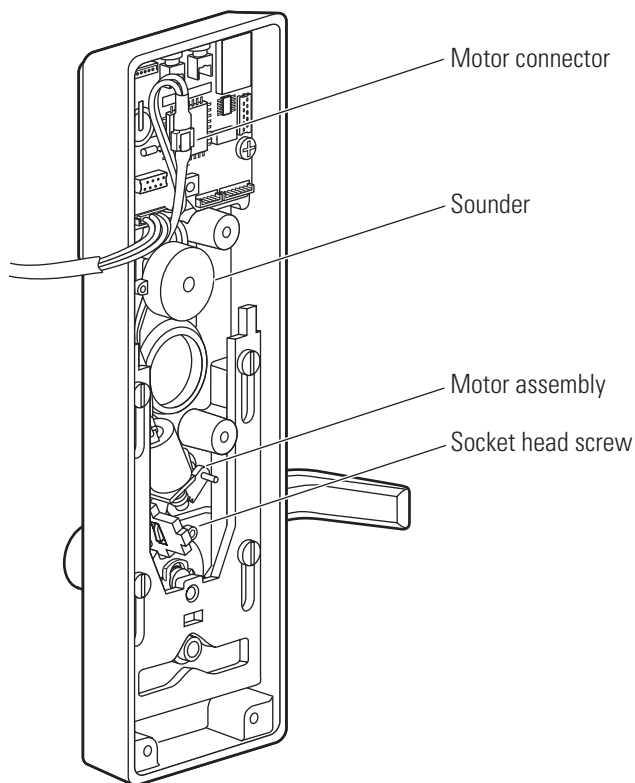

Figure 10.6 Removing the motor assembly (B.A.S.I.S.escutcheon shown)
2. Disconnect the motor connector from the primary harness. See Figure 10.6.